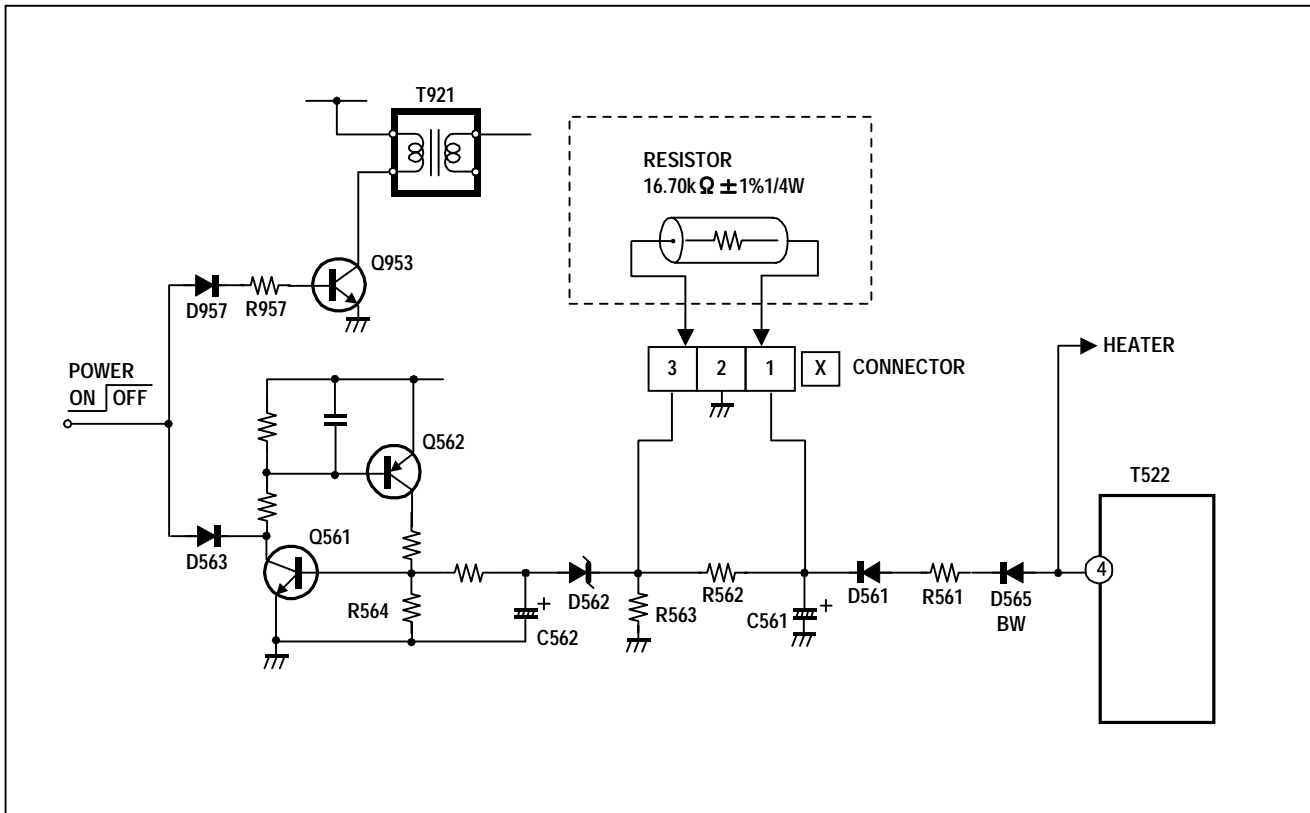

Fig. 1
After repairing the high voltage hold down circuit shown in Fig. 1.
- (1) Turn the power switch to on.
- (2) As shown in Fig. 1, set the resistor between  X connector  1 and  3 .
- (3) Make sure that the screen picture disappears.
- (4) Temporarily unplug the power plug.
- (5) Remove the resistor replaced  X connector  1 and  3 .
- (6) Again plug the power plug, make sure that the normal picture is displayed on the screen.